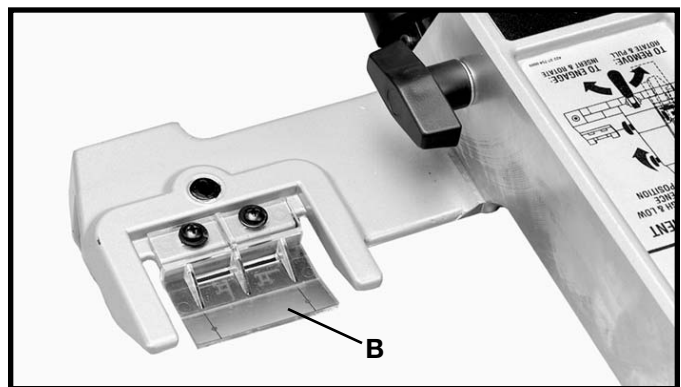

Fig. 33
2. Fig. 33 illustrates the cursor (B) assembled to the Unifence body. Adjustment to the cursor (B) will be made later.